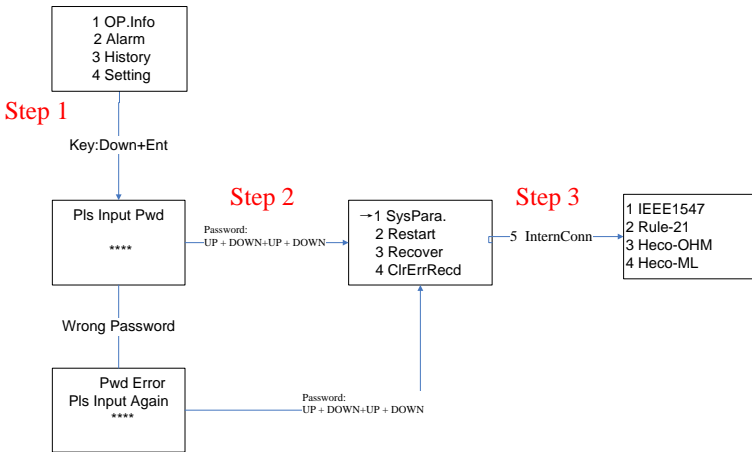
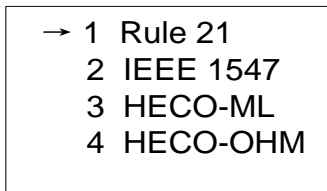

Figure 3.1 - Set Up Grid Standard
Figure 3.2 - Select Grid Standard; ML-Molokai/Lanai; OHM- O`ahu, Maui, and Hawai`i
- (e) When the inverter completes “sys checking”, the LCD shows the screen as Figure 3.1 below. Press ENTER to the standard selection interface, as shown in Figure 3.2.